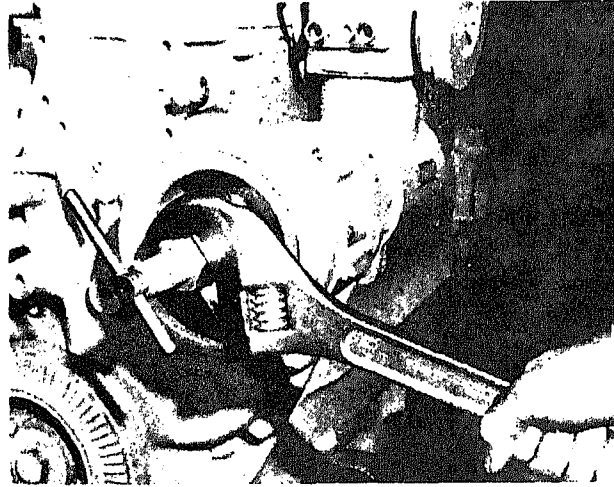

Fig. 14-1-73. Installing accessory drive pulley
3. Using Pulley Assembly Tool, press pulley onto drive shaft, Fig. 14-1-73.